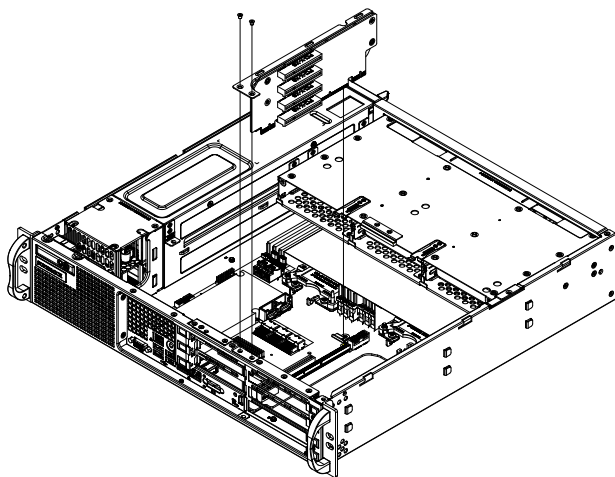

Figure 5-13. Installing Riser Cards - UIO/WIO Chassis
4. Insert the riser card(s) into the motherboard expansion slot(s) while aligning the riser card bracket with the front of the chassis. Secure the bracket with screws (Figure 5-13).
5. Rotate the latch on the left side of the PCI slot (A) to remove the PCI slot cover.
6. Remove the two screws and the retention bracket securing the right side of the PCI slot covers (B) and remove the "L" bracket for WIO chassis. For UIO chassis, rotate the latch to remove the chassis "L" bracket.